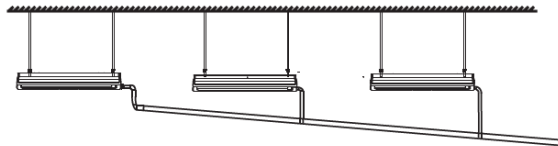

Figure 5.2
7. When the outlet of the water discharge pipe is higher than the pipe connection for water suction, try to keep the water discharge pipe as vertical as possible, and the water outlet connecting fittings will bend so that the height of the water discharge pipe should be within 1000 mm away from the base of the drain pan. Otherwise, there will be excessive water flow when the operation stops. See Figure 5.2.